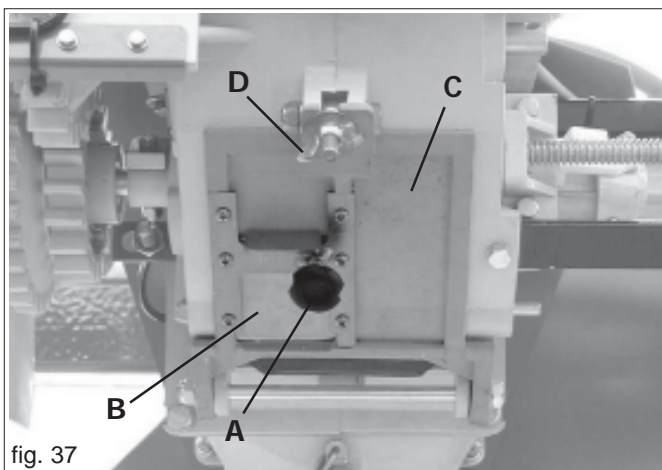

fig. 37
To empty the hopper of all remaining seeds, proceed as follows: put a bag or a container under the discharge hatch of the dosing apparatus, and then unscrew the knob (A Fig. 37) to discharge the hopper contents through the hatch (B). Lastly, open the discharge hatch (C Fig. 37) by unscrewing the wing nut (D Fig. 37) to empty the remaining contents of just the doser.